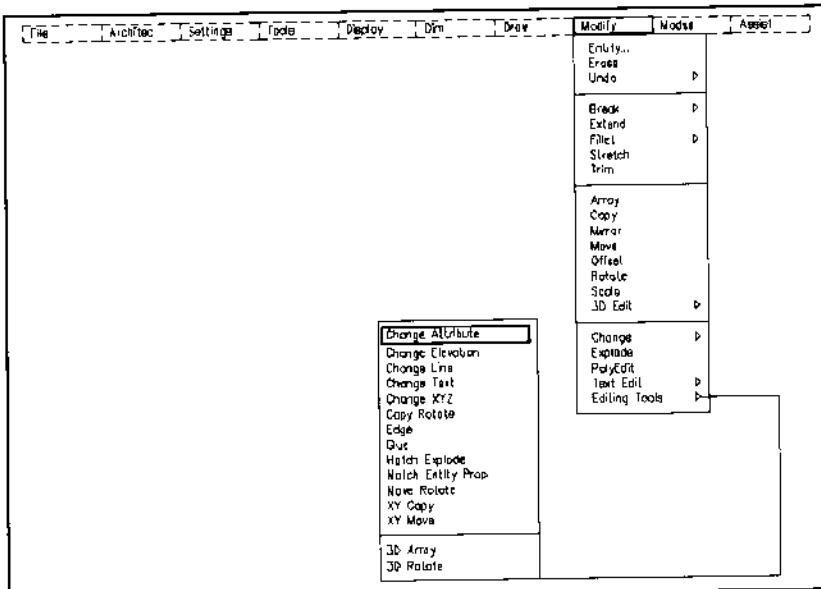

Figure 31.
2. Select Editing Tools under the Modify pull-down menu to display the cascading menu; then pick Change Attribute, as shown in Figure 31.